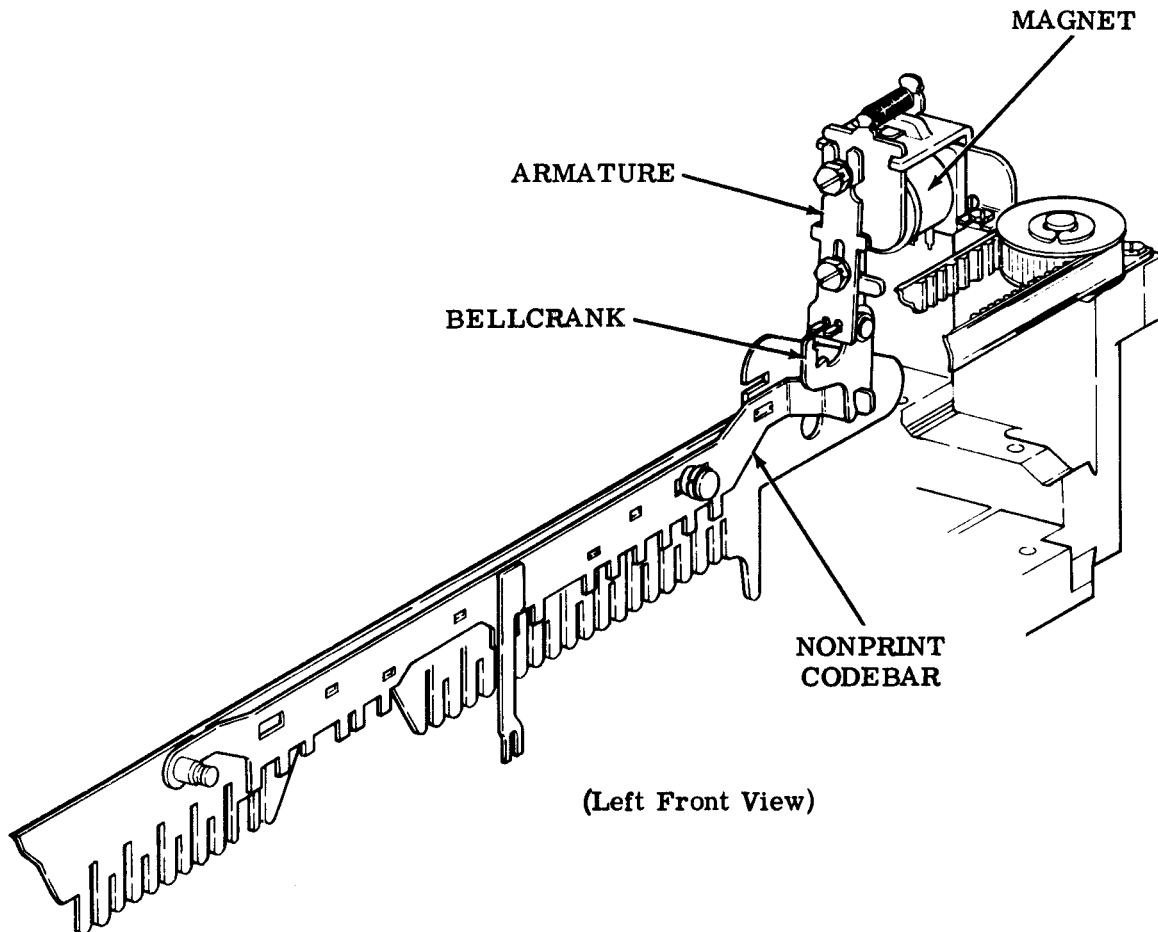

Figure 39 - Magnet Operated Print Nonprint Mechanism
5.02 The magnet operated print nonprint mechanism shown in Figure 39 allows transmission or reception of tape messages without printed page copy. An on and off toggle switch and a red indicator lamp mount to the right of the platen on the call control unit panel. The switch controls a magnet attached to the typing unit casting. The red indicator lamp lights when the mechanism is activated and the typing unit placed in the nonprint mode. Operation of the magnet attracts an armature which pivots a bellcrank. Operation of the bellcrank moves a nonprint codebar which blocks all the function levers except a special function lever. This special function lever rises every cycle. In so doing, it blocks the print suppression